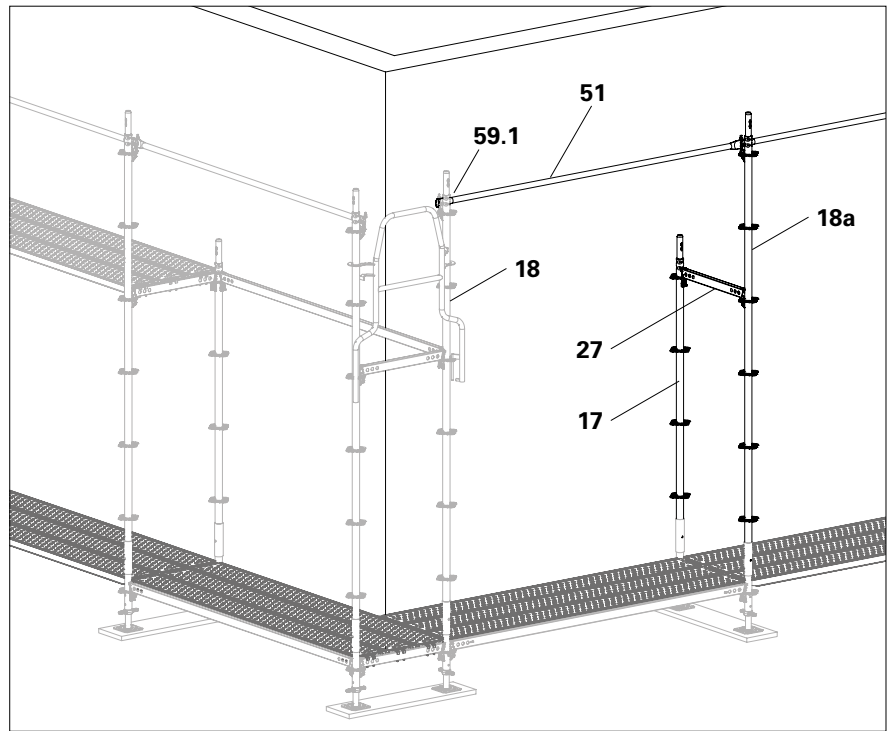

Fig. B6.05
3. Fit a Standard UVR-2 200 (**17**) on the inner side of the scaffold and connect it to the horizontal ledger (**27**). (Fig. B6.05)